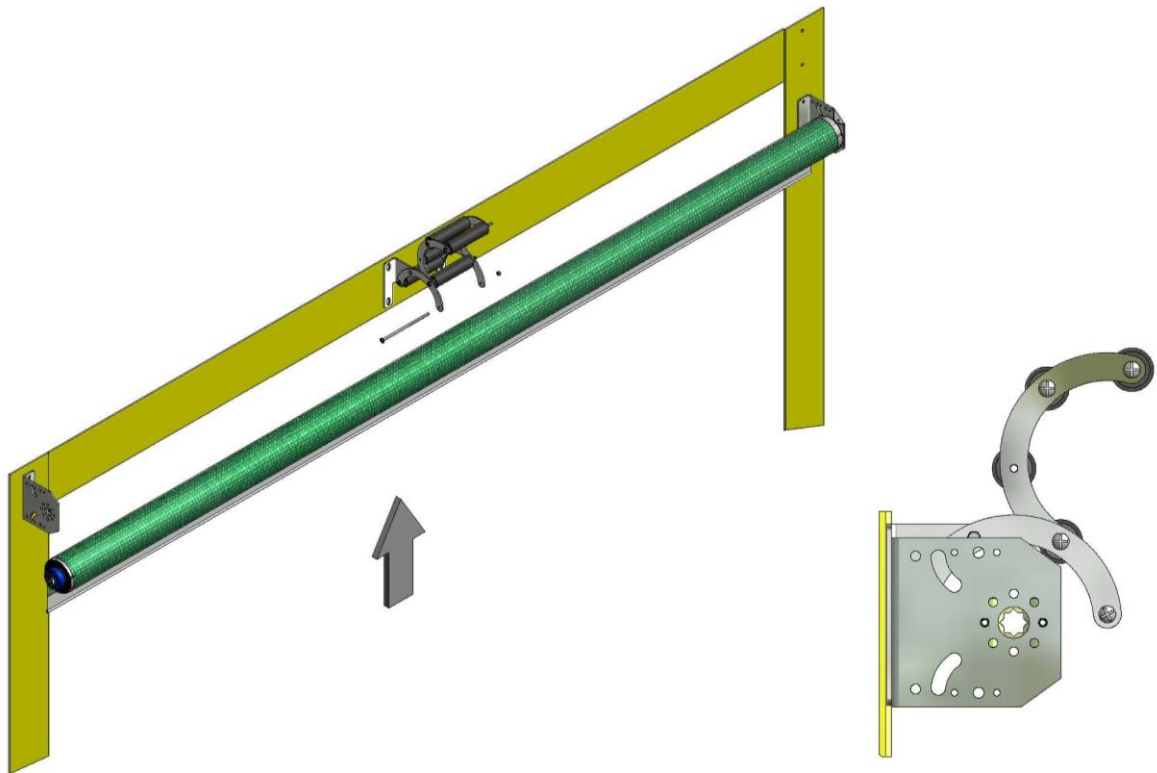

Figure 4, Fitting Top Tube
5. When installing the top tube with rolled up fabric and spring assembly, remove the pivot bolt and roller as shown in Figure 4 and swing the frame section up. Lift the tube assembly and locate on the drive end top bracket. For Electric Rollerdoor secure with the R-clip provided. Make sure the fabric rolls off the back of the top tube.